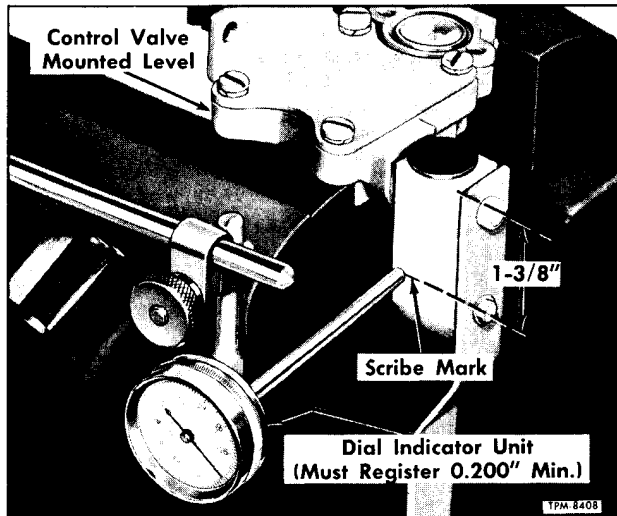
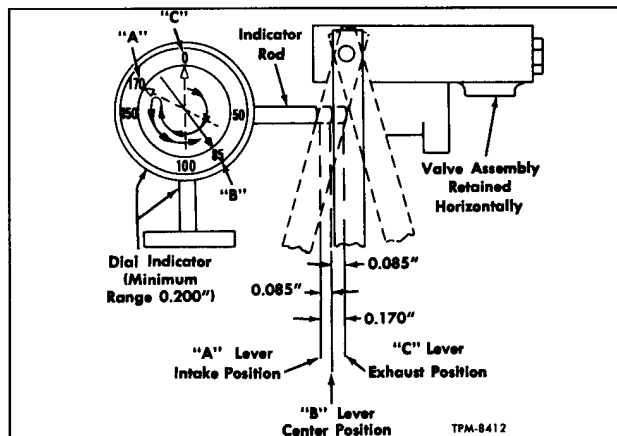

Figure 29—Dial Indicator Properly Installed
Figure 30—Locating Valve Overtravel Lever Center Positions
4. Referring to figure 29, scribe a line 1-3/8 inch from plug end of overtravel control body.
5. Place valve assembly in vise as shown in figure 29.
8. Locate dial indicator in position as shown in figure 29. Place overtravel lever forward to air exhaust position (delay piston flush with top of bore) without overtraveling (position "C," fig. 30). Relocate indicator push rod to just contact 1-3/8 inch mark on control body and reset indicator dial to zero (0) at this point (position "C," fig. 30).
9. Move overtravel lever rearward to air intake position without overtraveling (position "A," fig. 30) (delay piston at bottom of bore). Take indicator reading which may vary from 0.160" to 0.190".
11. Divide the total travel dimension by two (example: $0.170" \div 2 = 0.085"$), then move overtravel lever back this amount (0.085") to the center (position "B," fig. 30).